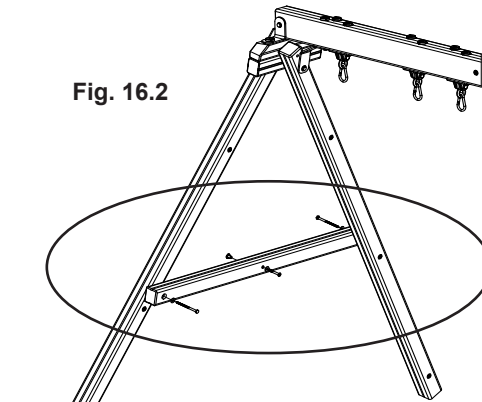
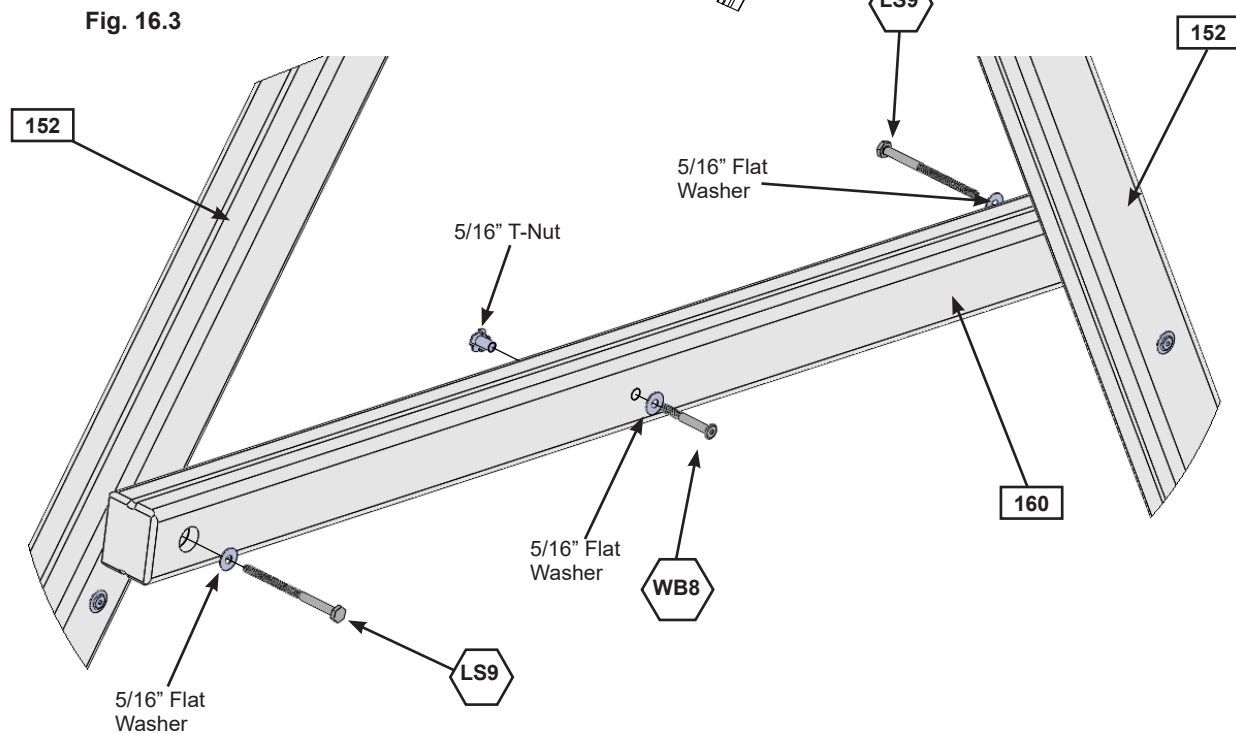

Fig. 16.2
Fig. 16.3
B: Place (160) Support Cross between (152) SW Posts at the previously determined spot and fasten with 1 (LS9) 5/16 x 4-3/4" Lag Screw (with flat washer) per side. (fig. 16.2 and 16.3) **Notice one side is fastened on the outside and one on the inside. It is important that each side is positioned exactly the same as the diagram. (fig. 16.3) Tighten the lag screw when you are sure (160) Support Cross is level.**
C: Attach 1 (WB8) 5/16 x 2-3/8" Wafer Bolt (with flat washer and t-nut) to (160) Support Cross through the middle hole. (fig. 16.2 and 16.3) **IMPORTANT! MAKE SURE THE BOLT IS ATTACHED TO MINIMIZE CHECKING OF WOOD.**